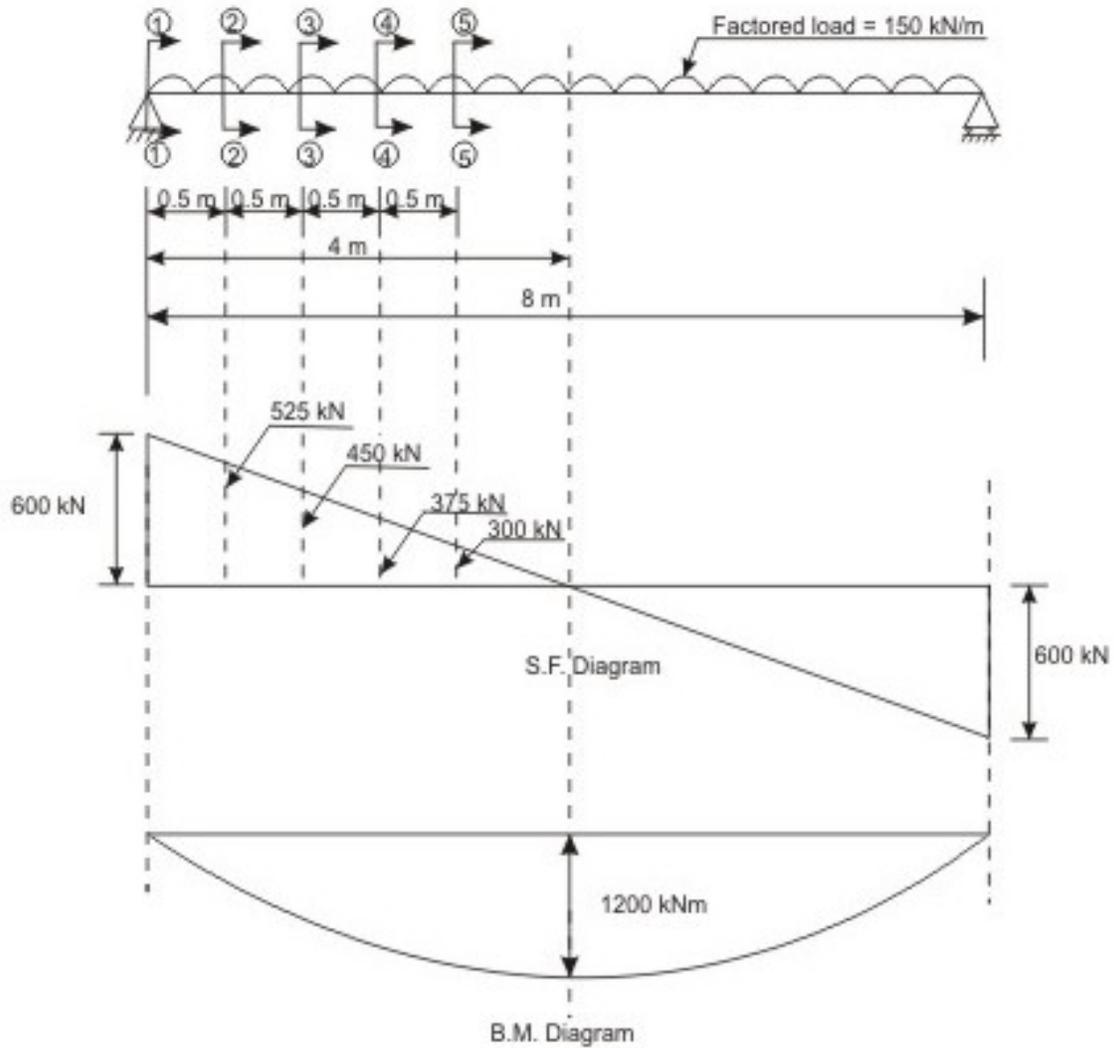

Fig. 6.14.7: B.M. & S.F. diagrams of Problem 3
The bending moment and shear force diagrams are shown in Fig. 6.14.7. At the mid-span
A_{st} at section 1-1 is determined ($= 3217 \text{ mm}^2 = 4\text{-}32\text{T}$) from Fig. 6.14.7 to calculate $\rho = A_{st} (100)/b_w d = 3217 (100)/300 (600) = 1.79\%$. From Table 6.1 of Lesson 13, τ_c is determined for $\rho = 1.79\%$ as 0.81 N/mm^2 . Table 6.2 of Lesson 13 gives $\tau_{c,max}$ for M 30 = 3.5 N/mm^2 .
V_u is 600 kN at section 1-1 from Fig.6.14.7 to get τ_v from Eq.6.1 of Lesson 13 as:
The magnitude of shear force for which shear reinforcement is needed (say, $V_{reinf.}$) is determined from Fig. 6.14.7. For section 1-1, from Eq. 6.4 of Lesson 13, $V_{reinf} = V_u - \tau_c b d = 600 - 0.81 (300) (600) = 454.2 \text{ kN}$.